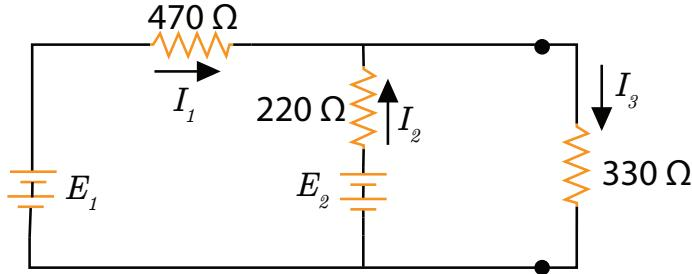

Figure 4.4.2: A circuit with two independent sources for verifying the Superposition Theorem.
9. Construct the circuit of Figure 4.4.2 in your prototyping board. Initially set E_1 and E_2 to be 10 V and 15 V respectively.